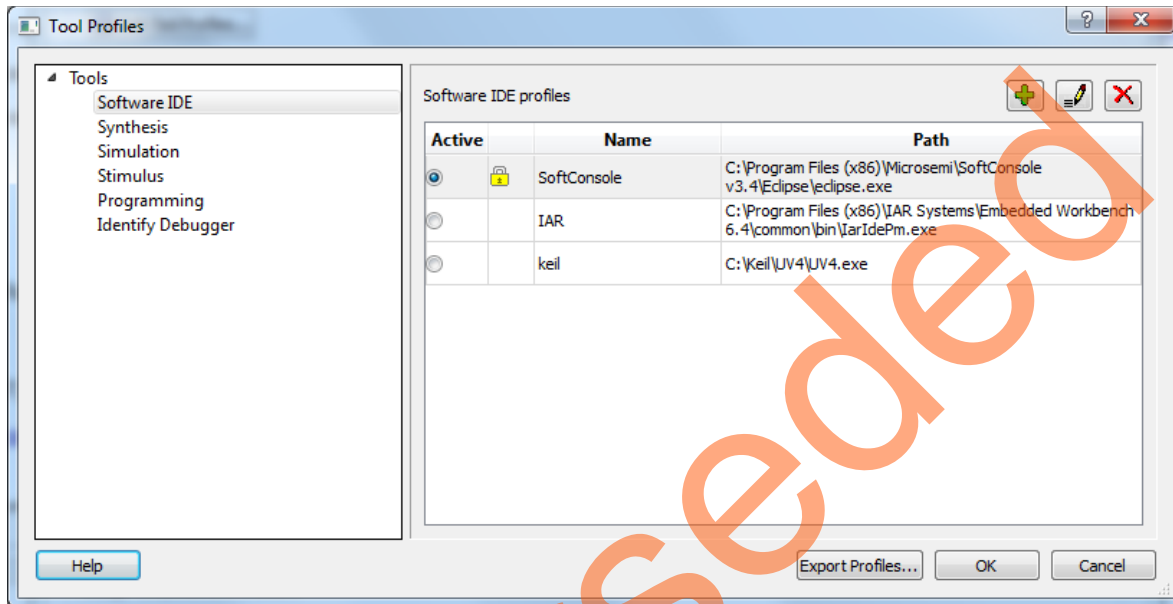

Figure 5 • Tool Profiles Window
5. Click **Edit Tool Profiles** to display the **Tool Profiles** window as shown in Figure 5 on page 9.